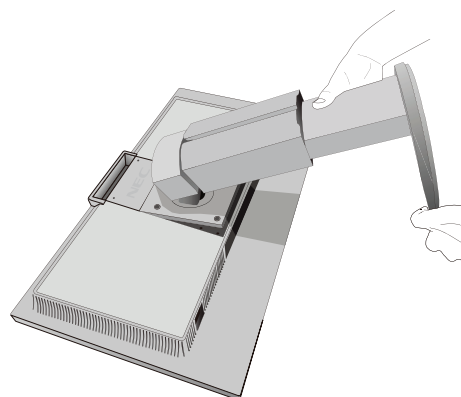

Figure S.4
6. Retirez le support (**Figure S.4**).